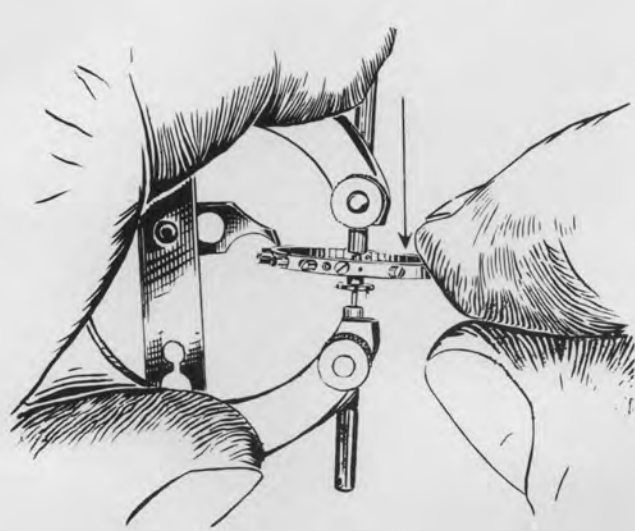

Fig. 23A
A. Because of the solid rim, the mono-metallic wheel can best be trued in the flat using the three fingered bend discussed under "Truing of Bi-Metallic Balance Wheels" on page 7. See also Figs. 23A and 23B above. If a rim of this type is found to be bent to any appreciable extent it should be replaced.